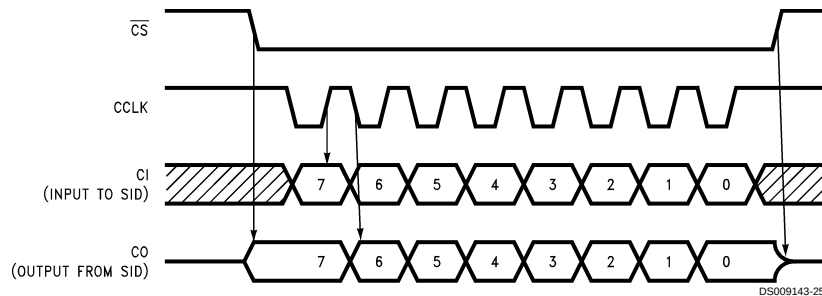

FIGURE 8. TP3420A Alternate MICROWIRE Clock Format
2. CCLK idling HIGH when the  $\overline{CS}$  pin is inactive HIGH, pulsing HIGH/LOW/HIGH for 8 clocks, then returning back to HIGH for idle condition. Data is output on the CO pin on the negative edge and data sampled in on the positive edge of CCLK. This format (shown in *Figure 8*) is normally used with other alternate microcontrollers in the industry.